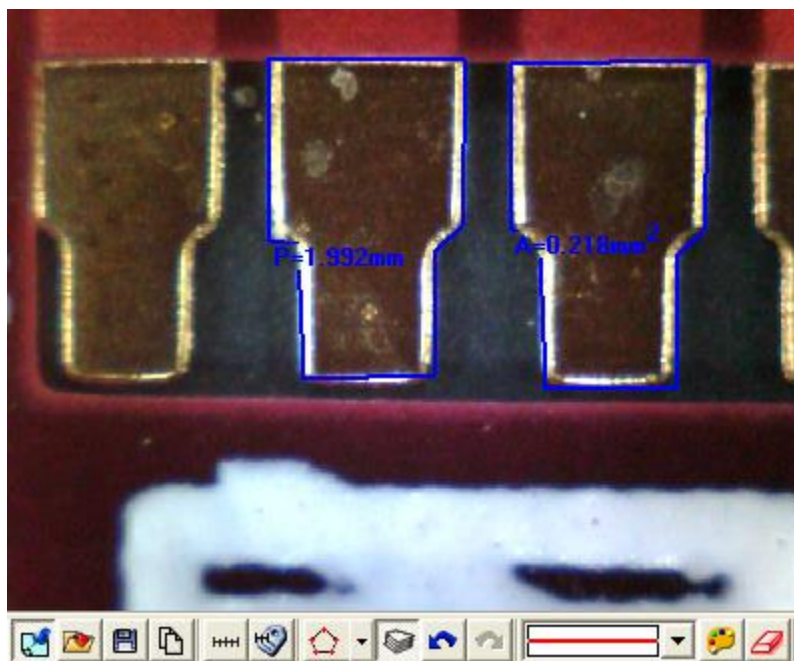

Fig 5-77 Polygon
- (14) Polygon : A polygon is a shape that is made up of many sides and has only line segments. Choose “” to measure the area and Perimeter, See Fig 5-77, the calculated polygon P (Perimeter) is 1.992mm, A(Area) is 0.218 mm² .